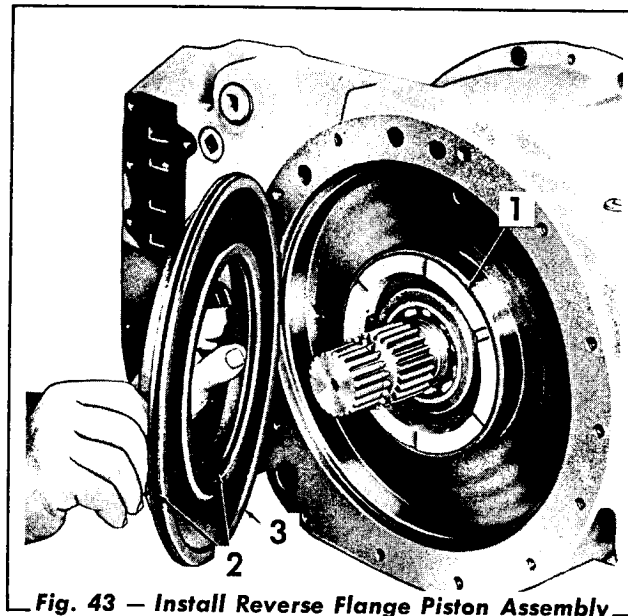

Fig. 43 - Install Reverse Flange Piston Assembly
7. Grease the spacer (Fig. 43) with oil soluble grease and install it with the recesses clearing the ground sleeve capscrew heads. Grease and install the seal rings. Install the reverse range piston into the converter housing.